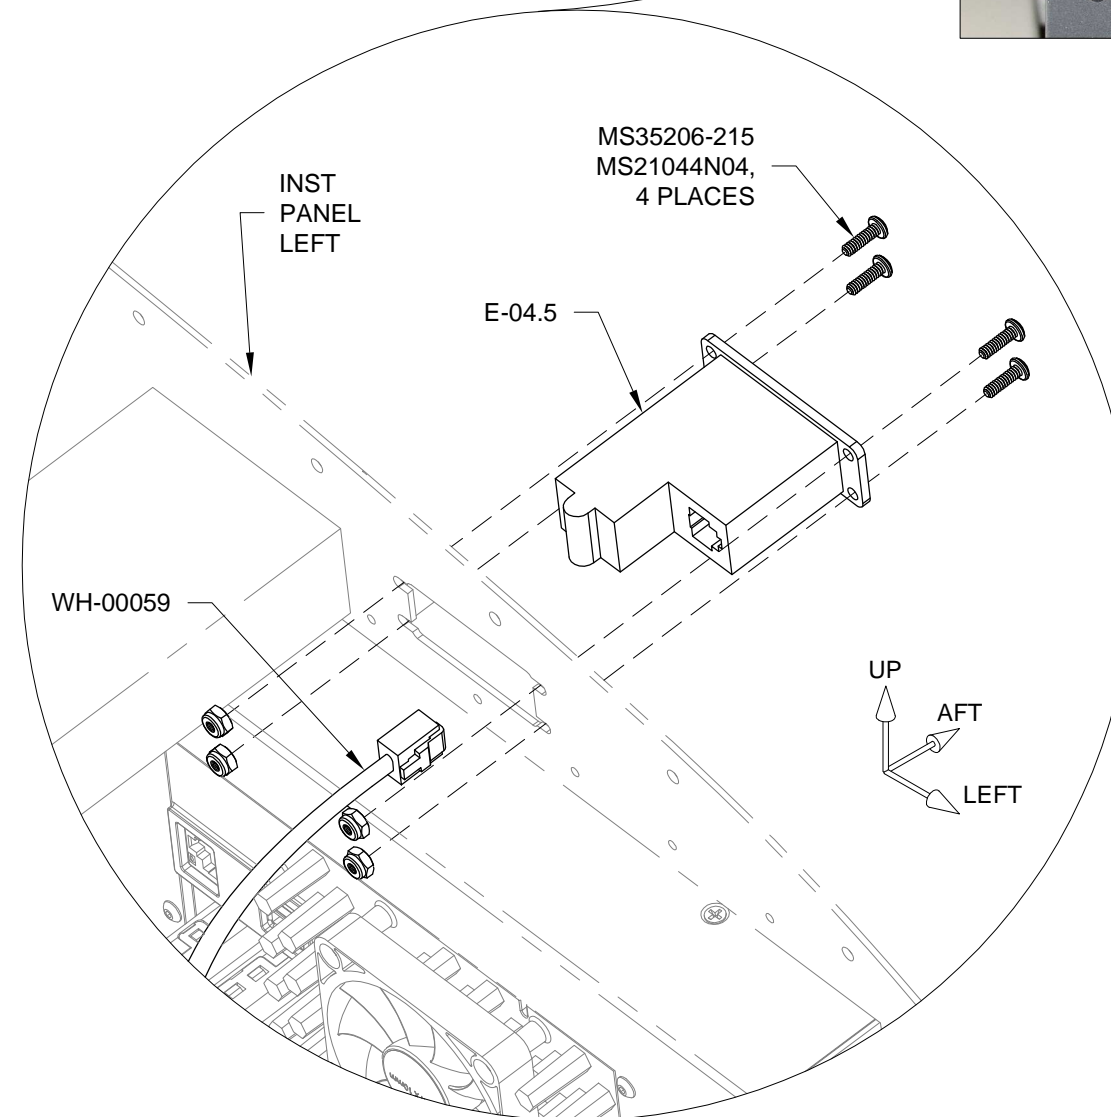

FIGURE 3: COCKPIT REMOTE INSTALLATION
Step 8: Attach the cockpit remote to the Inst Panel Left as shown in Figure 3.
Step 9: Route the WH-00059 Phone Cable to the back of the cockpit remote as shown in Figure 3 detail and insert.